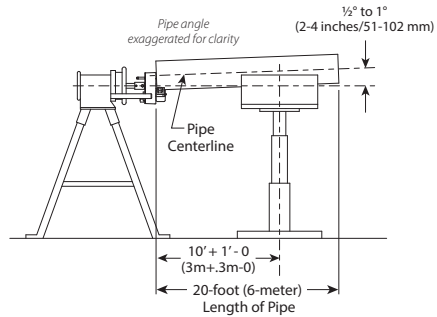

FIGURE 1 - SUPPORT OF PIPE
- b. Place the pipe stand at a distance slightly beyond half the length of the pipe/tubing from the tool. Refer to Figure 1 above.
d. Adjust the height of the pipe stand so that the pipe is approximately ½° to 1° **ABOVE** level. Refer to Figure 1. **NOTE:** The pipe/tubing must be inserted into the rolls while the height of the pipe stand is adjusted.
- Figure 1 shows the Victaulic Adjustable Pipe Stand (VAPS 112). The VAPS 112 is suitable for ¾ – 12-inch sizes. The Victaulic Model VAPS 224 is suitable for 2 – 24-inch sizes. Refer to the “Accessories” section.